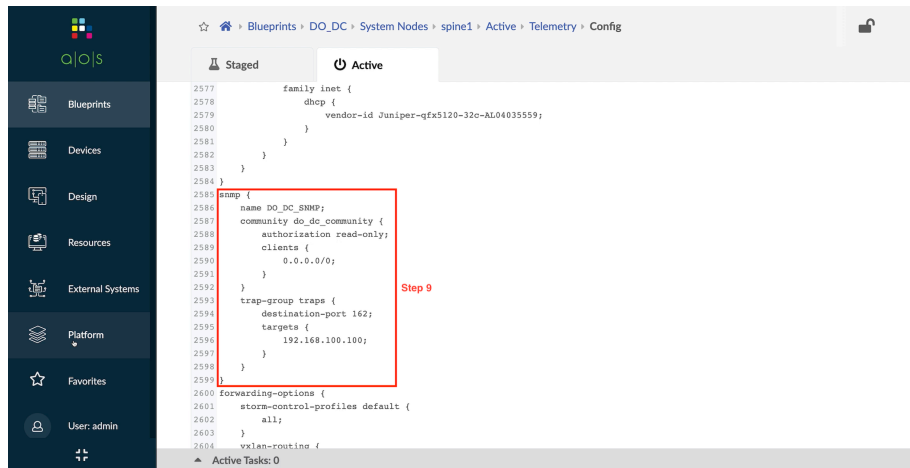

Figure 7.15 Verifying a Configlet Has Been Applied
Step 9: Find the added configuration. See Figure 7.15.